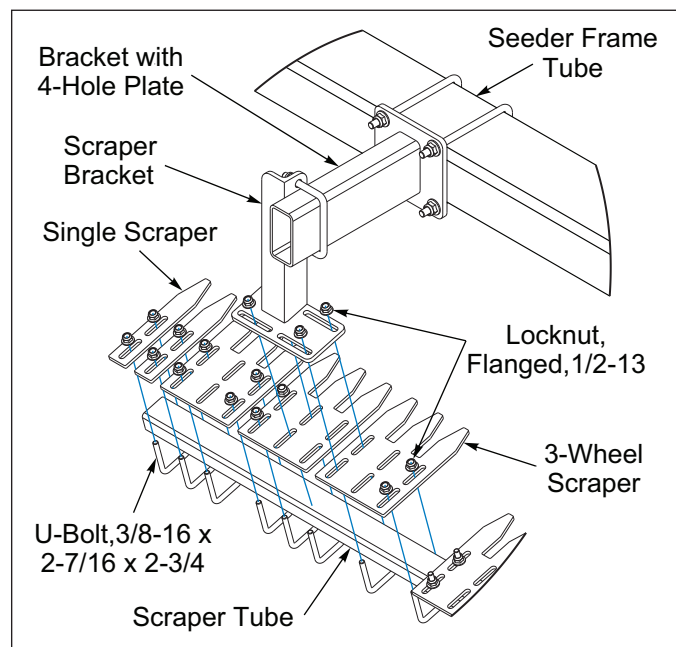
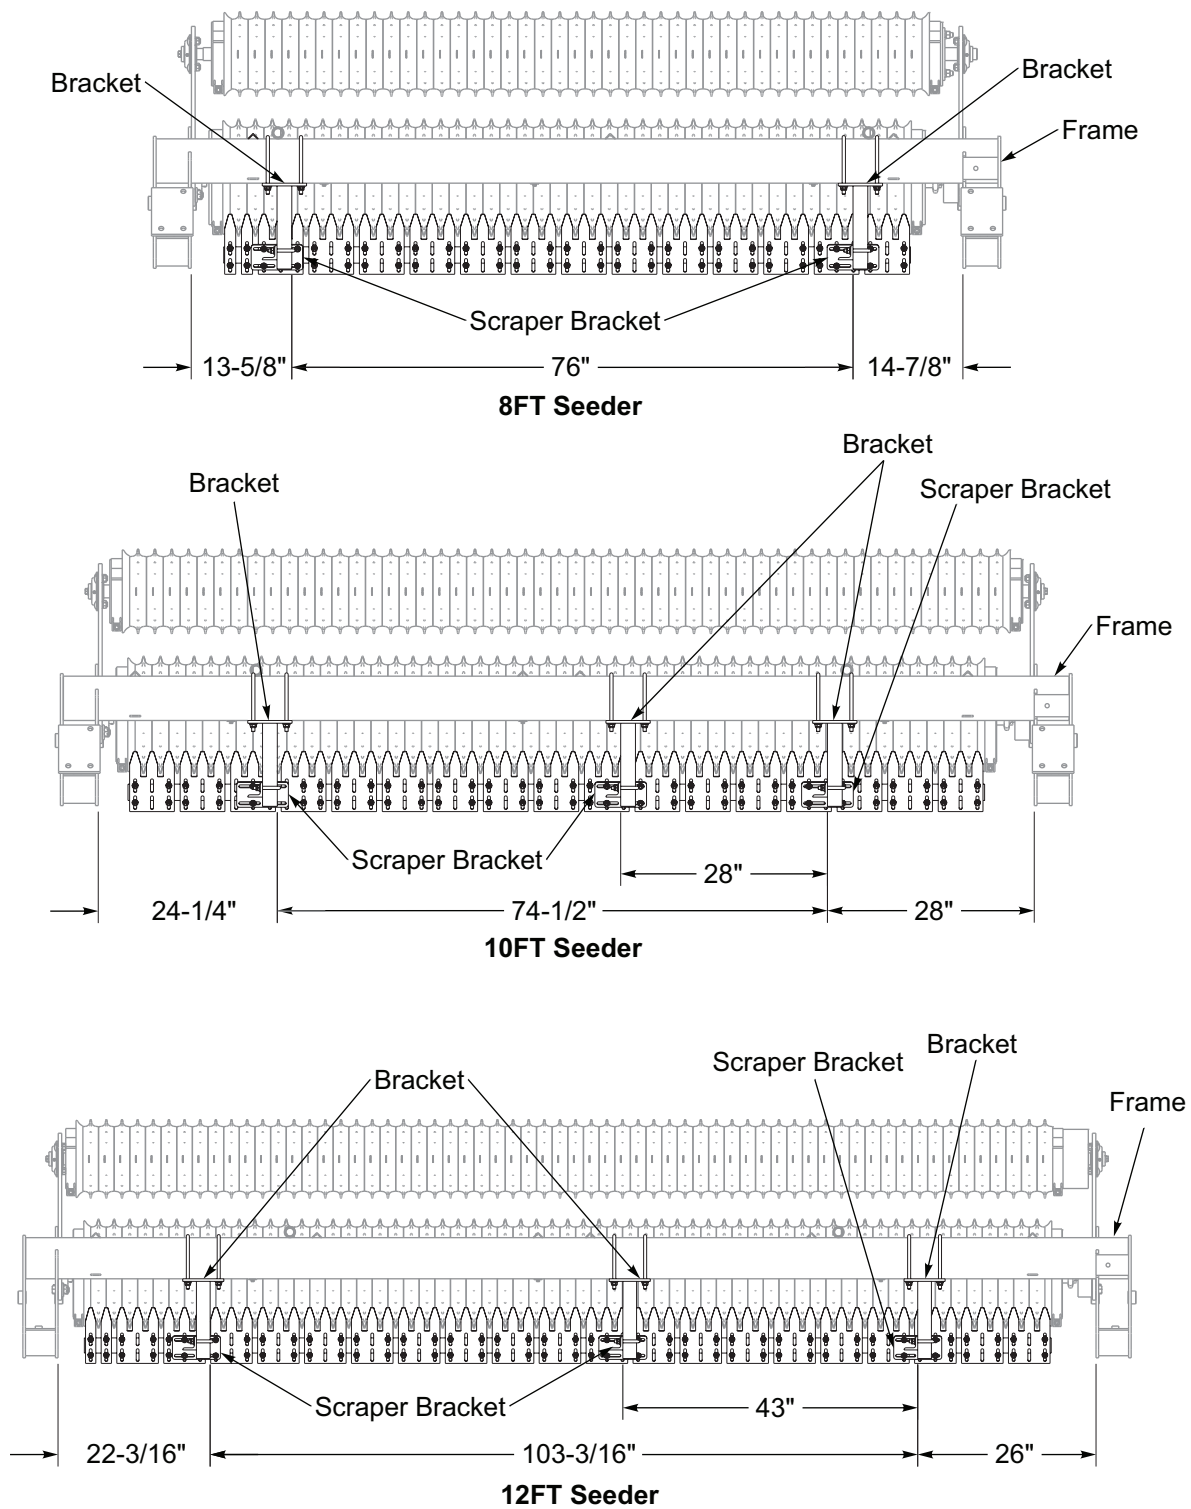

Figure 2-43: Scraper Assembly
Figure 2-44: Scraper Mounting Dimensions - Pull-Type
2. Position and assemble the Brackets with the 4-Hole Plate approximately as dimensioned on the front of the Seeder Frame Tube. **See Figures 2-44 and 2-45.** Secure with 1/2-13 x 4-1/2 x 7-1/2 U-Bolts and Flanged Locknuts.
Scraper Brackets should be positioned per application. Use **Figures 2-44 and 2-45** only as a reference.
6. Align the Scraper Brackets Slotted Plate to the appropriate Scrapers and attach with the Scraper 3/8-16 Hardware. **See Figure 2-43.** It may be necessary to use the center pair and an outer pair of slots in the Scraper to attach the Scraper Bracket to the Scraper and Tube Assembly. **See Figures 2-44 and 2-45.**